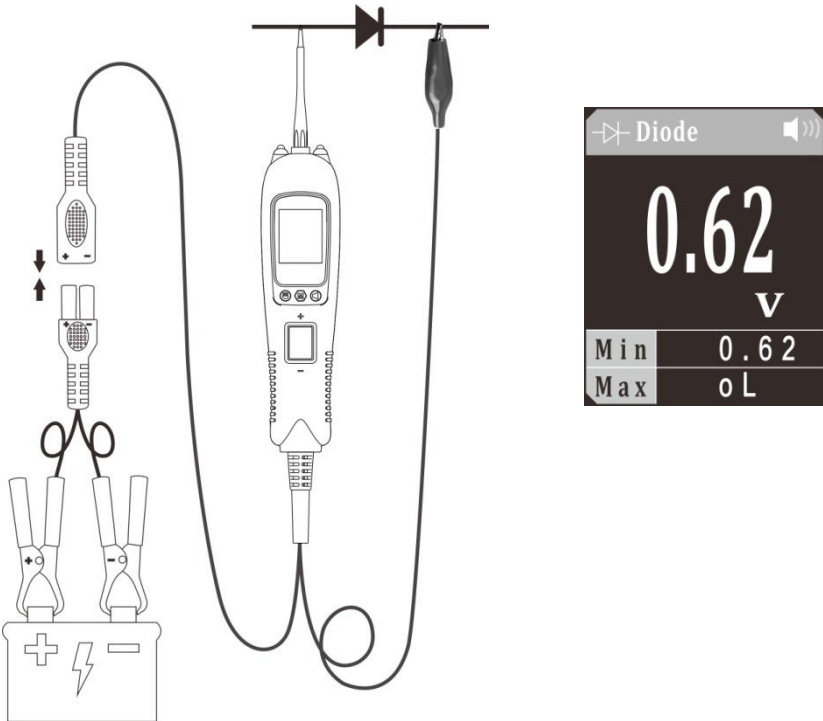

Figure 9
- 3) Contact the probe tip to diode positive terminal, connect the auxiliary ground lead to diode negative terminal, the screen will display the forward voltage drop, which indicates forward bias. If swapping the probe tip with auxiliary ground lead, the screen will not display voltage, which indicates reverse bias. It also displays the maximum and minimum values during measurement, as shown in (Figure 9).